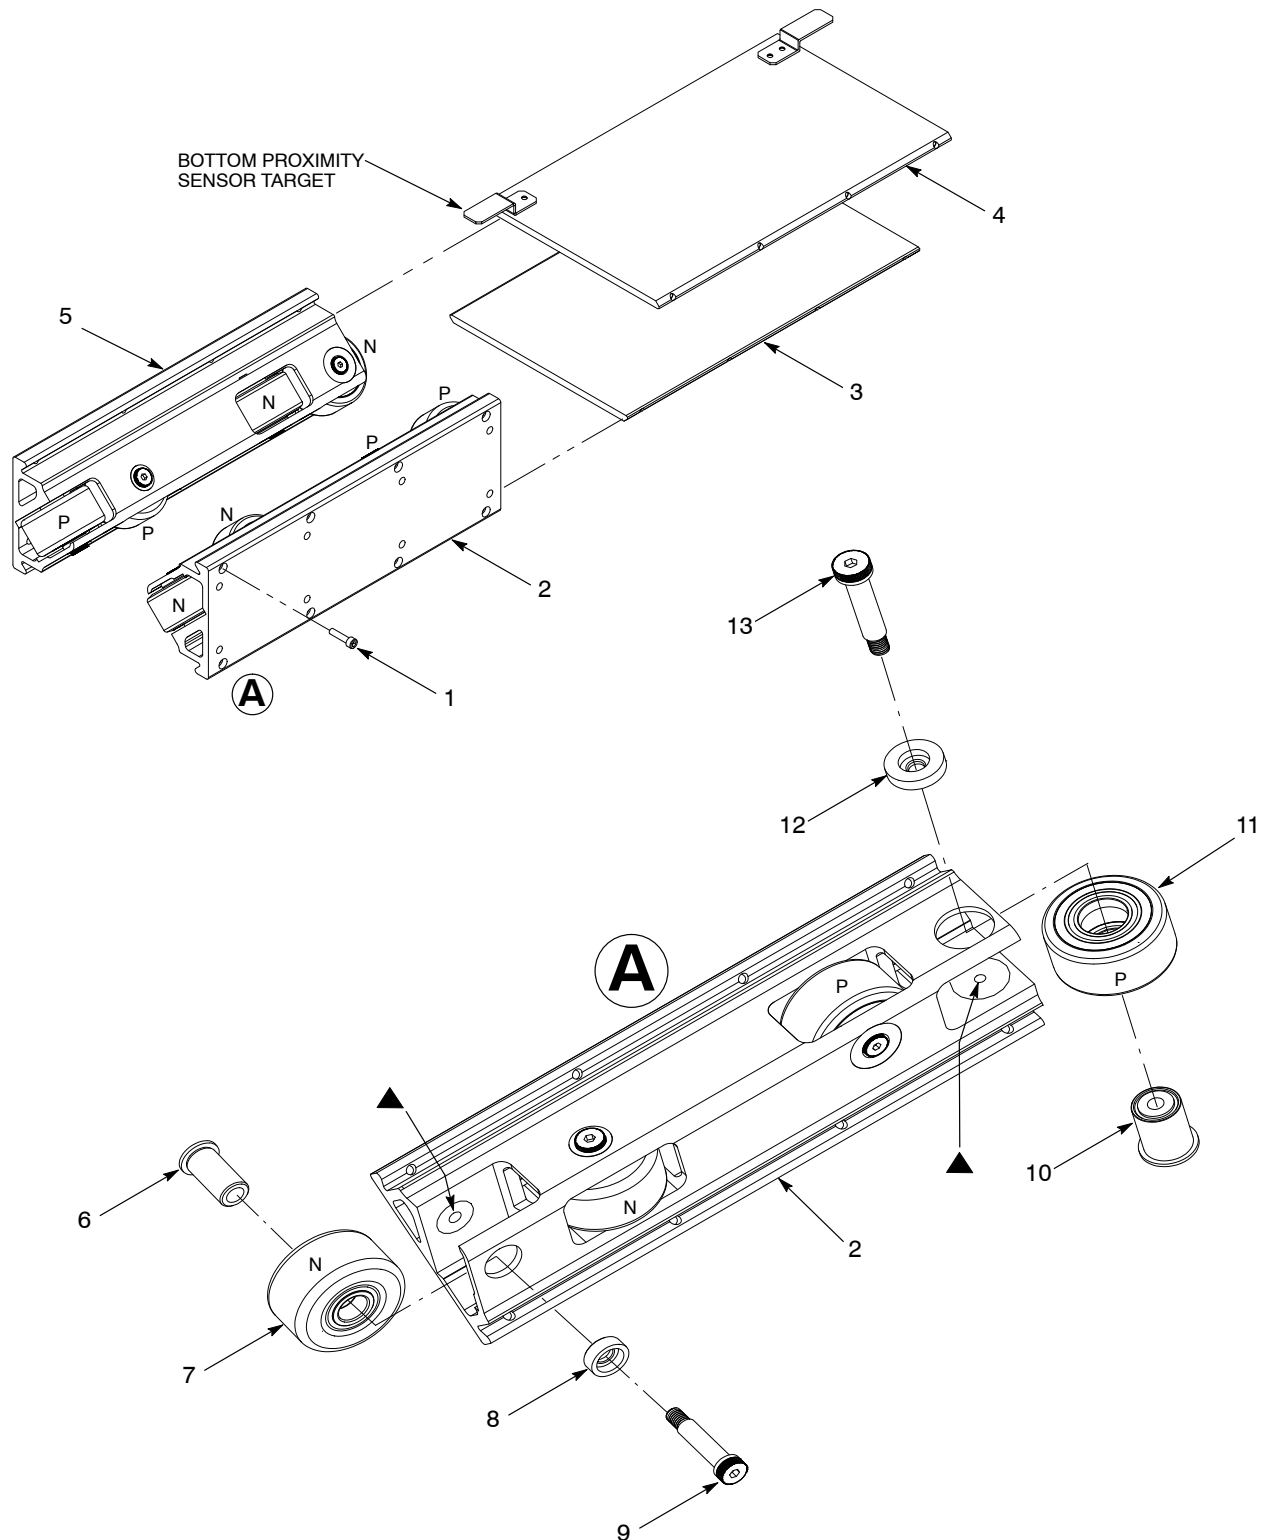

Figure 16 Replacing the Gun Carriage Rollers
1. See Figure 16. Remove the screws (1) securing the covers (3, 4) to the roller blocks (2, 5).
3. Perform the following to replace a Nylon roller (7):
- a. Remove the screw (9) and short bushing (8) securing the Nylon roller to the roller assembly (2).
- b. Remove the long bushing (6) from the Nylon roller (7). Insert the long bushing into the new Nylon roller.
- d. Insert the Nylon roller (7) into the roller assembly and secure it using the short bushing (8) and screw (9). Tighten the screw to 25 N•m (18.4 ft-lb).
4. Perform the following to replace a Polyurethane roller (7):
- a. Remove the screw (13) and roller bushing (12) securing the Polyurethane roller (11) to the roller block (2).
- b. Remove the conformal axle (10) from the Polyurethane roller (11).